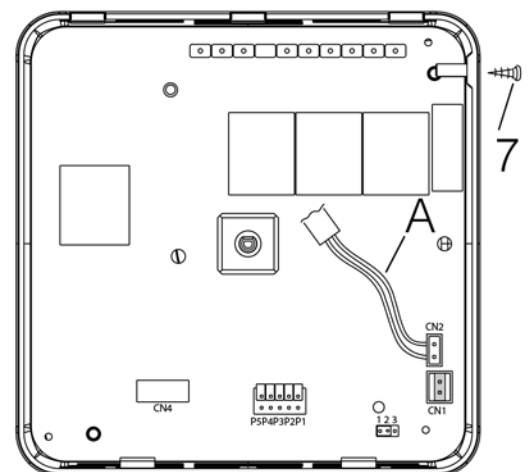

Fig. 4
- Abra o comando, desapertando o respetivo parafuso de fecho (fig. 4) referência, ligue o sensor do lado do conector na placa eletrónica ao conector marcado com a sigla (CN2).
- Unscrew the fastening screw (see fig. 4), ref. g to open the control, connect the sensor to the electronic card connector marked (CN2), on the connector side.